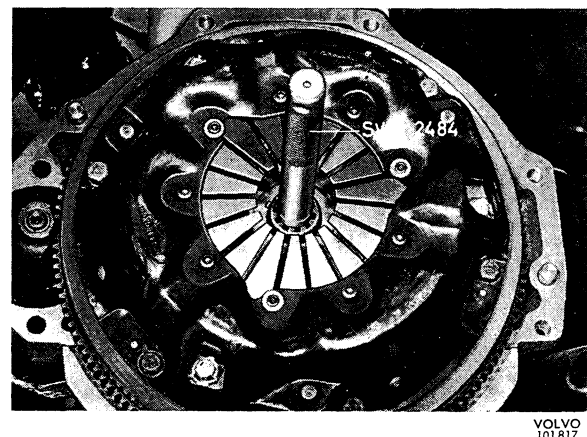

Fig. 4-8. Fitting clutch
1. Set up the clutch plate (the longest side of the hub facing backwards) together with the clutch and insert the centering mandrel SVO 2484 so that the guide journal on this centers the pilot bearing in the flywheel, see Fig. 4-8.